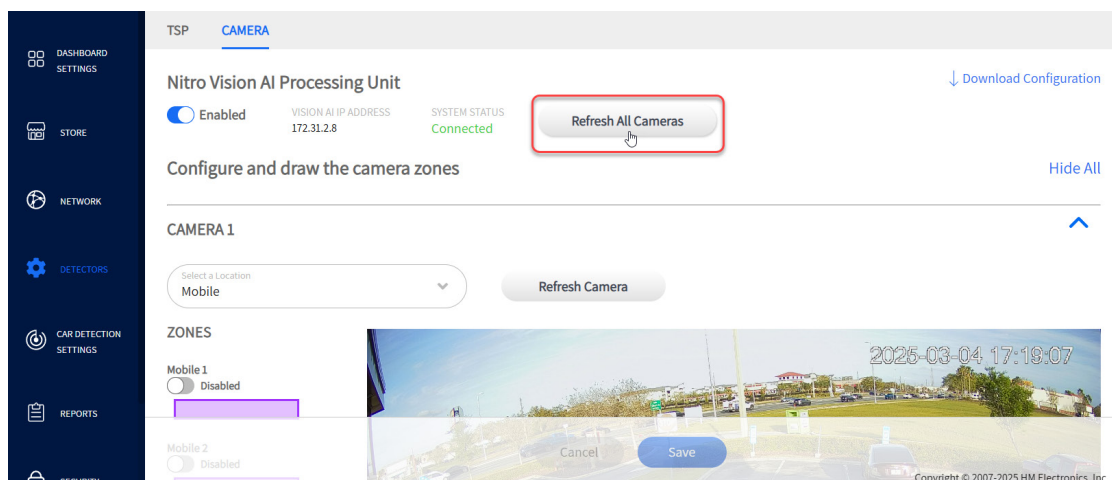

Fig. 21
3. The Camera page will populate. Click/tap the "Refresh All Cameras" button to see preview (Fig. 21).